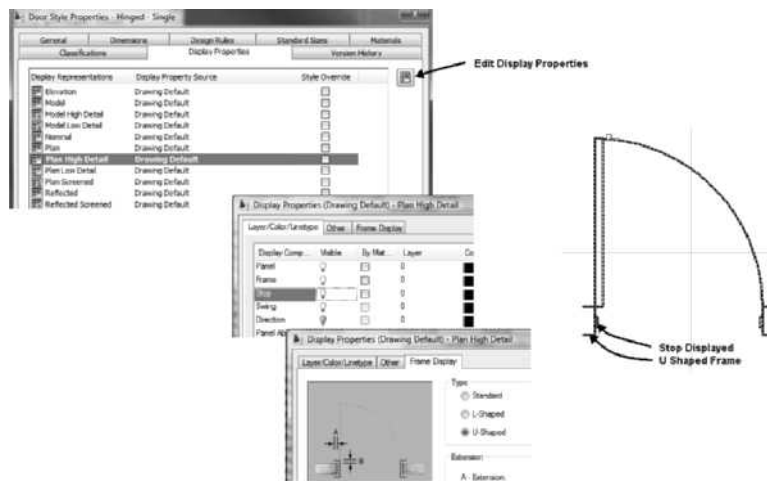

FIGURE 5.24 Editing Display Properties to display stop and modify frame type
16. Select the door, and choose **Edit Style** from the Door contextual tab. Choose the Display Properties tab. Select the **Plan High Detail** display representation. Choose Edit Display Properties to top open the Display Properties (Drawing Default) - Plan High Detail. Choose the Layer/Color/Linetype tab. Imperial only click the light bulb to turn on the display of the Stop as shown in Figure 5.24.
18. Edit the Frame Display. Type to U-Shaped as shown in Figure 5.24. Click OK to dismiss all dialog boxes and view the U-shaped frame.